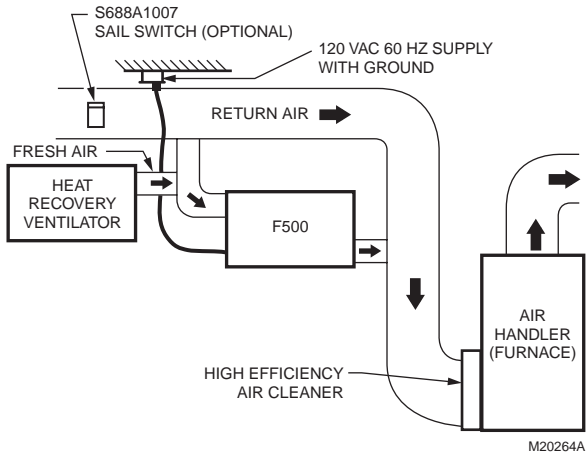

Fig. 4. Typical F500 bypass installation with heat recovery ventilator.
- The F500 can be installed with a heat recovery ventilator. See Fig. 4.